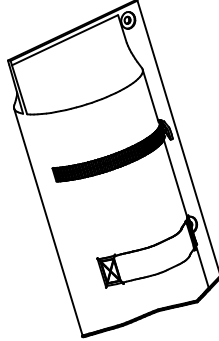

FIGURE F-1
1. Un-zip and fill all 8 sandbags with dry all-purpose sand as shown in Figure F-1.